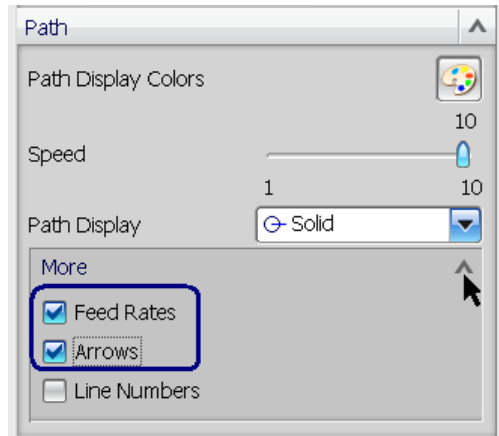

Figure 8.18. Switching on the feed display
- A dialog box will appear. Here, in the *Path* group, click on the arrow icon next to *More* — figure 8.18.